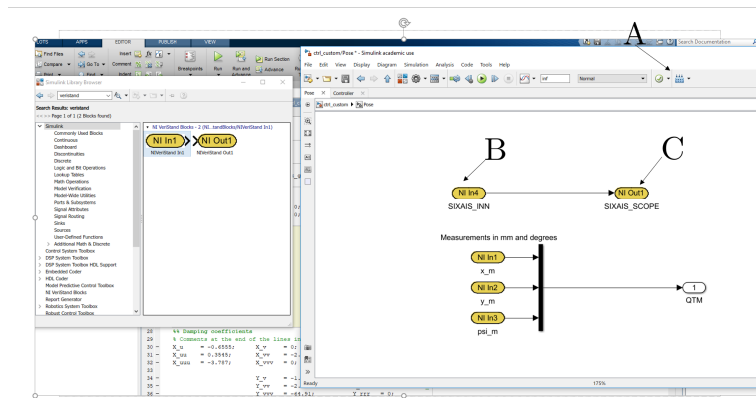

Figure 8
1. For compilations, you are to work with "*custom_ctrl.slx*". This already is set up with correct build settings, such that you can compile it simply by pressing "*build model*" (See Figure 8-A. As long as you work in the same folder, the Veristand will find your compiled code (ctrl_custom.out) automatically.
- Add new inputs (B) and outputs ports (C) before building in Simulink (See Figure 8). Outputs can be accessed by editing the graphical interface in Veristand. New inputs are typically sent from either from graphical interface or the Sixais controller.